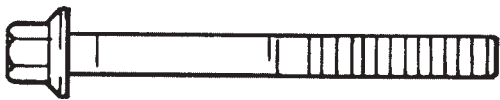

Figure 11-10. Connecting Rod Bolts.
5. Install the inner rod cap to the connecting rod using the two hex flange screws. Three different types of connecting rod bolts have been used and each has a different torque value. If 8 mm straight shank type bolts are used, torque in increments to **22.7 N·m (200 in. lb.)**. If 8 mm step-down bolts are used, torque in increments to **14.7 N·m (130 in. lb.)**. If 6 mm straight shank bolts are used, torque in increments to **11.3 N·m (100 in. lb.)**. Illustrated instructions are provided in the service rod package. See Figures 11-10 and 11-11.